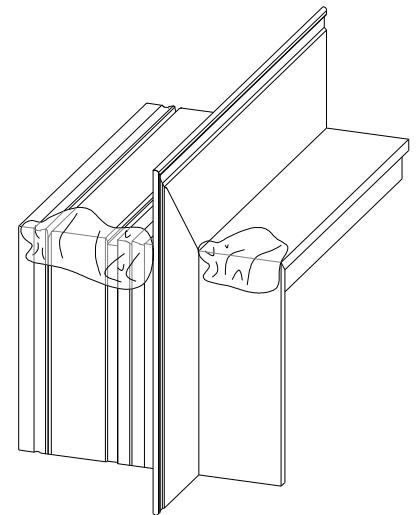

Figure 5:
- Seal frame and vent joints completely with compatible sealant. Apply a heavy bead of sealant to the interior side of the mounting flange (nail-on) where the frame jamb and sill join. Sealant must cover the entire joint (from the flange to the inside leg) and extend 1 1/2" up the jamb and along the sill (Figure 5).